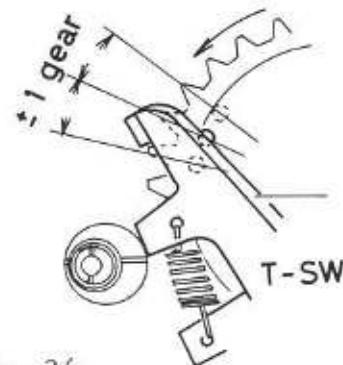

Fig. 26
- 24-2 To install the Shutter winding seat assy. (0-C106) with remaining above, turn the top gear of the Shutter winding gear (0-C106) to position its first hole aligns with the Timing SW actuating lever as shown in Fig. 26.